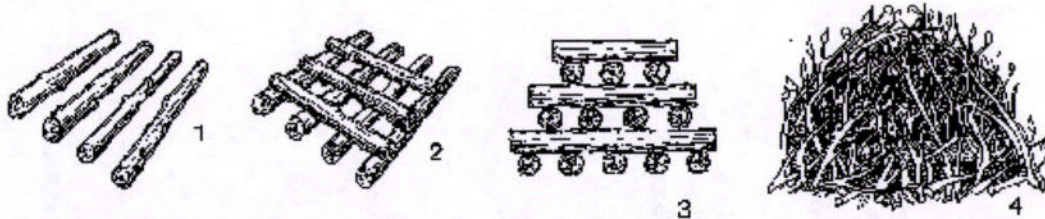

**FIGURE 1 - Theoretical Pattern for Contour Tree Felling**
- **Directional Felling Contour Logs:** Directionally felled contour logs are to be left on all slopes greater than 30% within the treatment unit to act as water and erosion barriers. The contour logs are to be placed following the contour and perpendicular to the main direction of the slope in a herring bone pattern with less than 300 lineal feet of boles per acre. The lengths shall be laid discontinuously throughout the unit so as not to touch each other or be stacked. The overall formation of the lengths of wood should alternate their location on the hillside. (Use "Figure 1" below as a guideline). Contour logs must be limbed completely, be greater than 10 feet in length, and greater than 6 inches in diameter on the bottom and 3 inches in diameter on the top. All contour logs must have at least 50% of the log in contact with the ground and have existing anchors (stable rocks or stumps) on the downhill side.